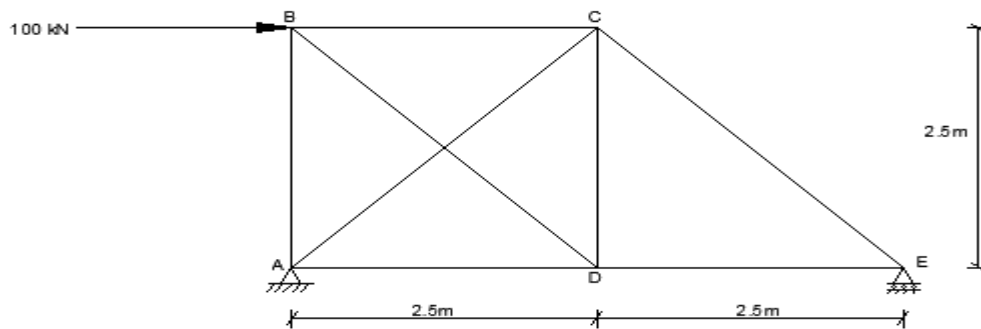

Figure .2
2. Determine the forces in all the members of the redundant pin jointed truss shown in **Figure .2** below. Assume cross-sectional area of each member as 1500 mm^2 . 14M